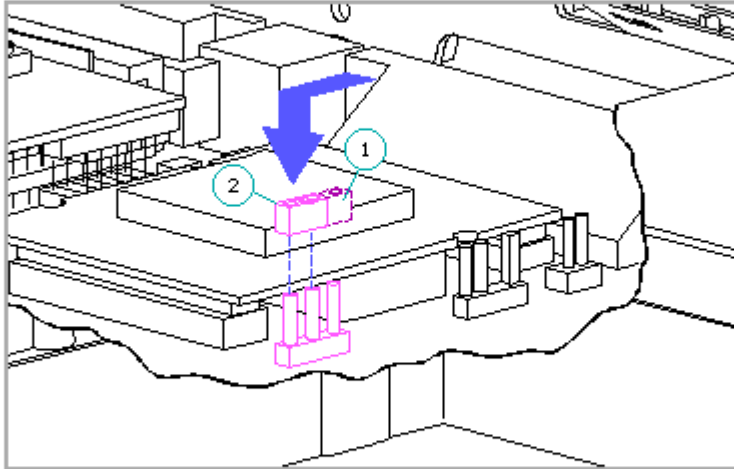

Figure 2-1. Clearing the Power-On Password
password-clearing position [2]). Refer to Figure 2-1.
6. Move the jumper from the normal "1-2" position [1] to the "2-3" position [2] (Figure 2-1).